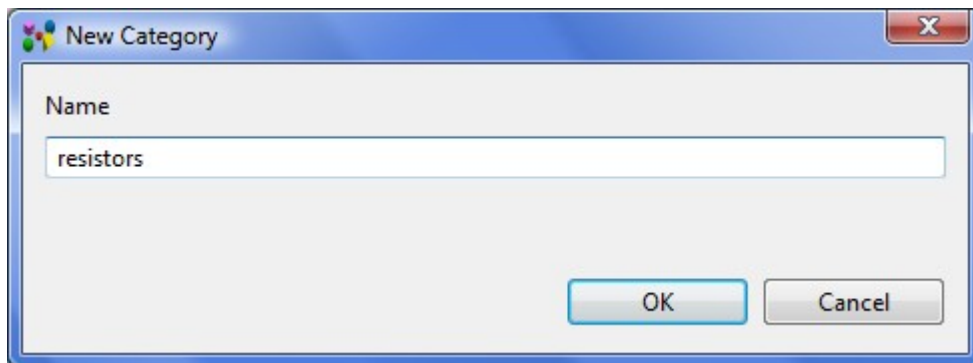

Figure 2. New Category dialogue window with specified category name
- To *create a new category* - press the **New Category** button next to the **Parts** table. The **New Category** dialogue window appears on the screen (see Figure 2):